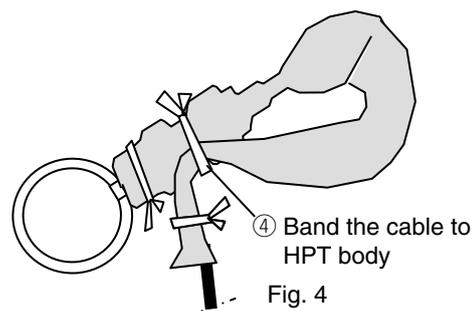

Fig. 4
- ④ Bend HPT cable and band the cable to HPT body. (Fig. 4)